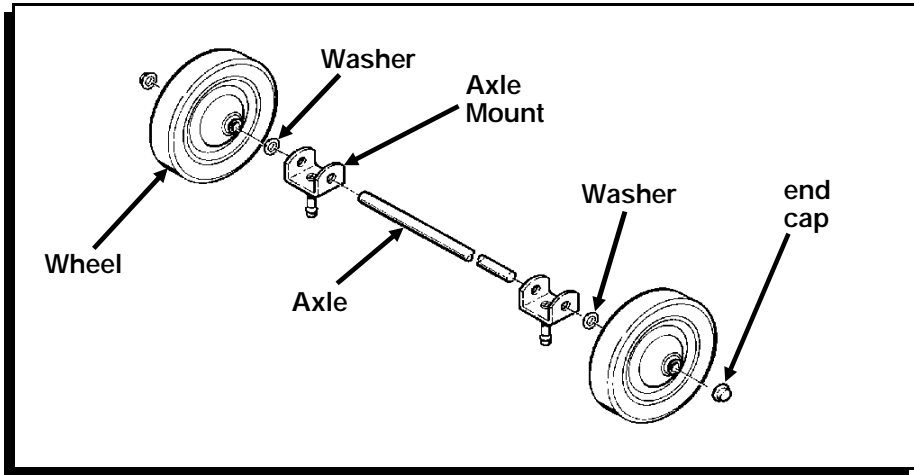

Figure 1
4. Slide the following parts, in this order, onto the axle: one wheel, one washer, and two axle mounts. (Figure 1.)